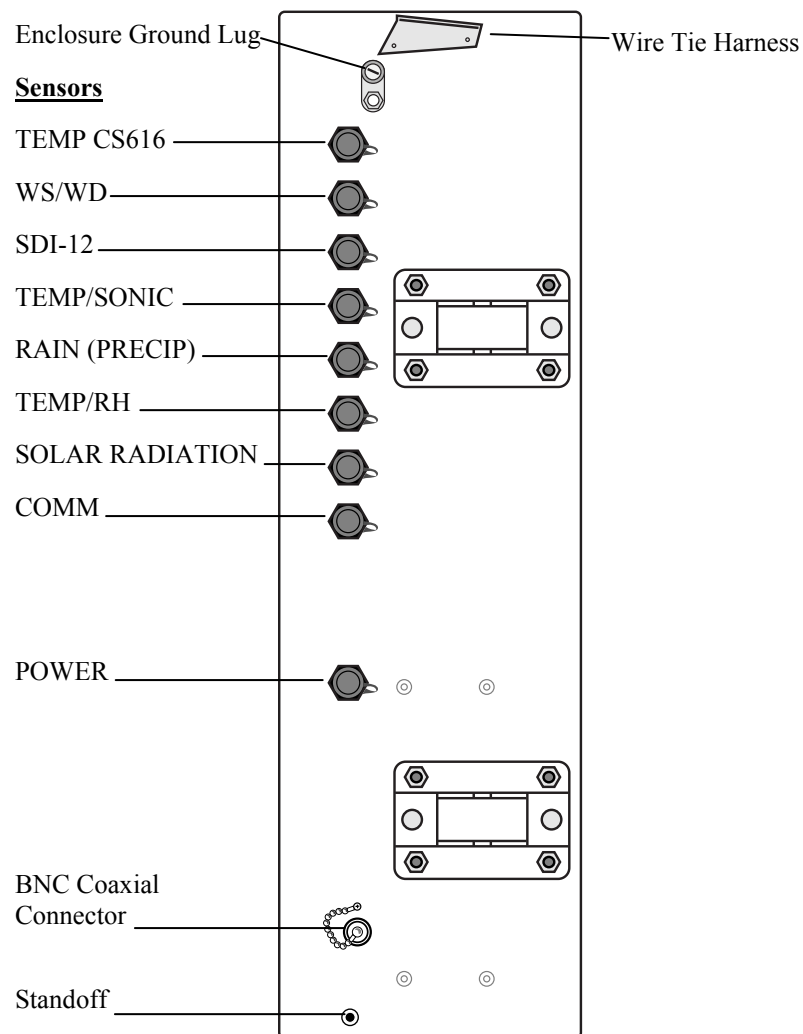

FIGURE 2.4-14. Position of Sensor Bulkhead Connectors
1. Each sensor cable plug attaches to a unique bulkhead connector as shown in Figure 2.4-14. The sensor cables are individually marked to match up with the sensor labeling on the back of the enclosure.